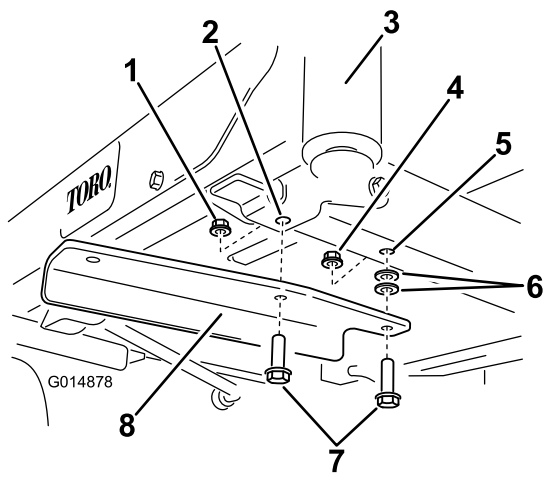

Figure 5
4. Secure the bracket to the frame using two bolts (3/8 x 1-1/4 inches), two washers and two lock nuts (3/8 inch) (Figure 5). One locknut is from loose parts and the other is reused from earlier removal.